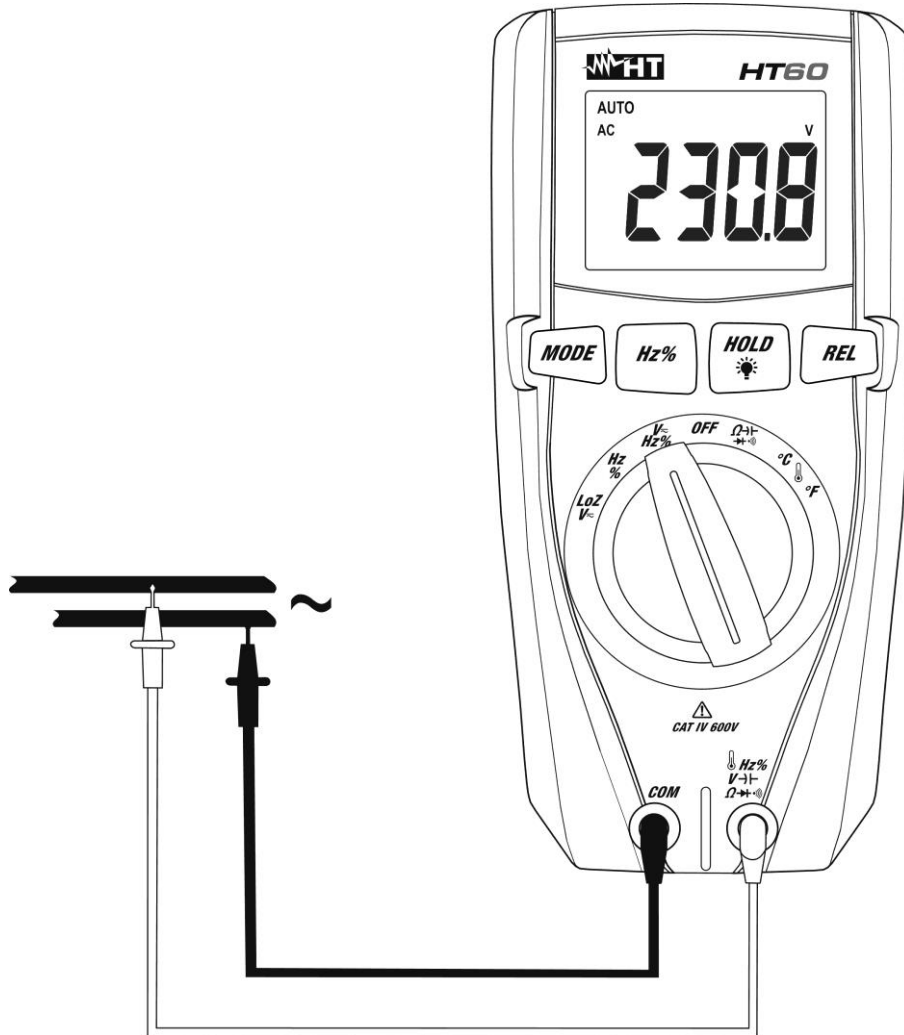

Fig. 3: Use of the instrument for AC voltage measurement
3. Position the test leads in the desired spots of the circuit to be measured (see Fig. 3). The display shows the value of voltage.